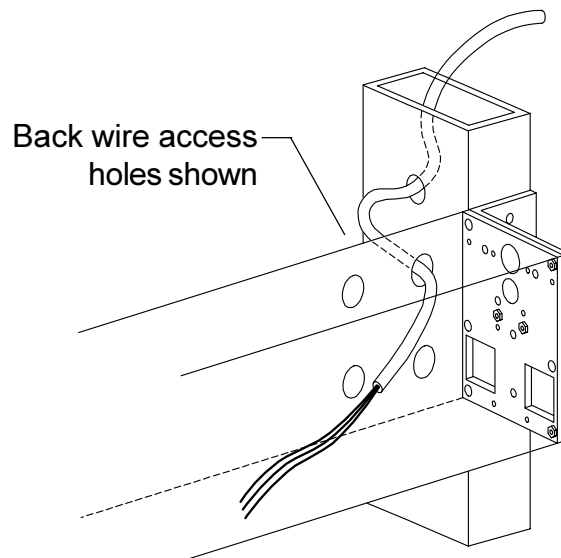

Figure 3-4
- 3.5. Feed the 115 volt power conduit into the header (Figure 3-4). Leave 12" minimum of wire inside the header for final hookup.